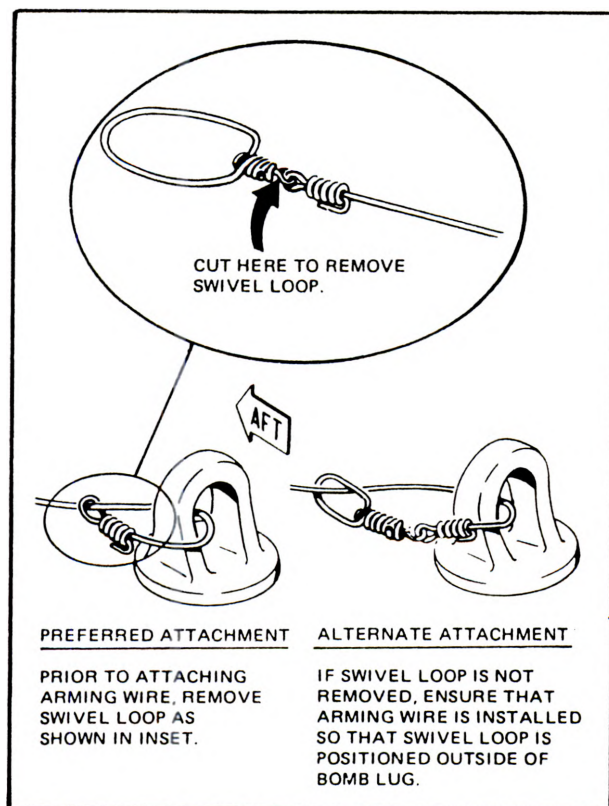

Figure 12-32.—Attachment of Mk 3 arming wire to the aft bomb lug.
13. Attach an Mk 3 arming wire to the aft suspension lug using either of the attachments shown in figure 12-32.